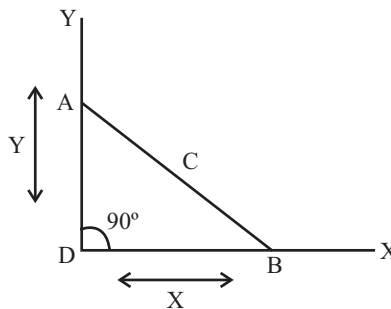

Fig 11.1
Q.10: A straight link AB 40cm long has, at a given instant, its end B moving along line OX at 0.8m/s and acceleration at 4m/sec² and the other end A moving along OY, as shown in fig 11.1. Find the velocity and acceleration of the end A and of mid point C of the link when inclined at 30° with OX.